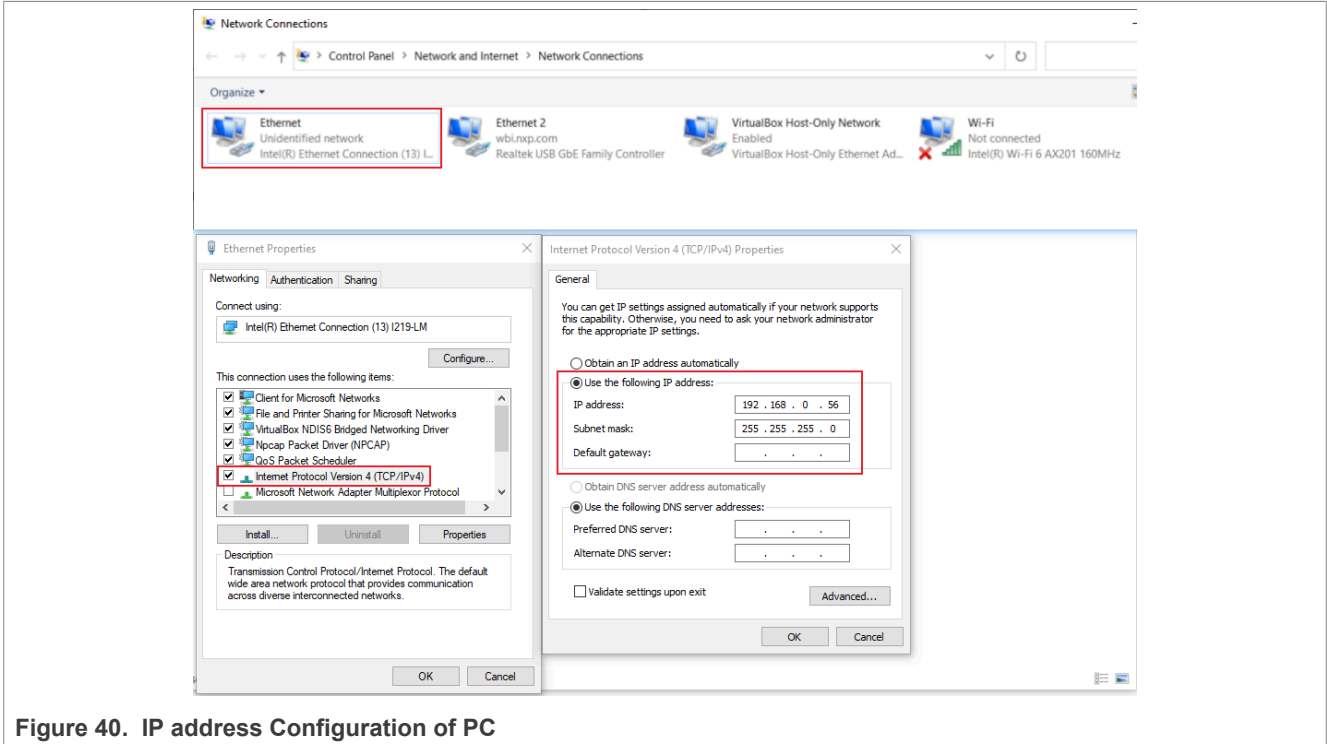

Figure 40. IP address Configuration of PC
- Connect BMU through Ethernet, and modify the IP address of the PC to an unused address in the 192.168.0.x network segment showing in the blew Figure 40